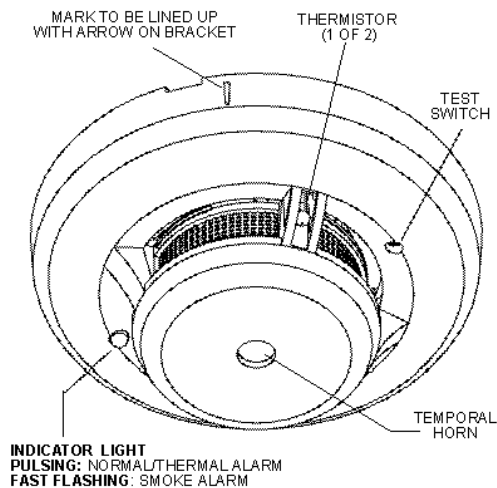

Figure 1. General View
- When required to initiate a transmission for enrollment of the first ID, activate the **test switch** (see fig. 1) until the built-in horn sounds (see Para. 1.2B).